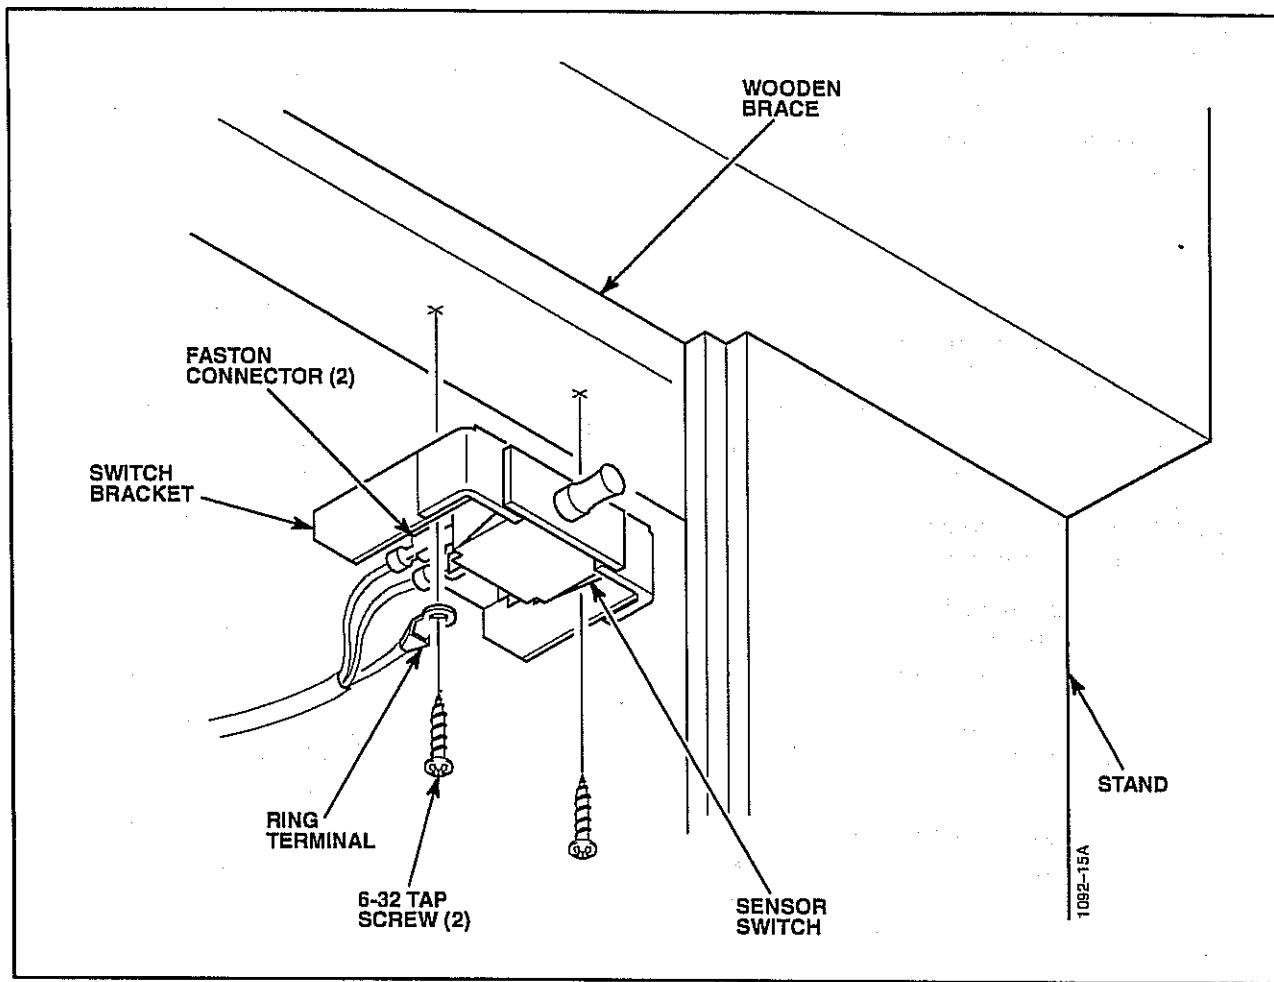

Figure 2-5. Drop-Door Sensor Switch – Horizontal Placement.
Refer to Figure 2-5 and the following instructions for installing the drop-door sensor switch in a horizontal position in the stand.
3. Snap the switch into the bracket (from the front of the bracket) so that it appears as shown in Figure 2-5.
6. Position the switch bracket so that the front of the switch faces out of the door opening in front of the stand and the two mounting slots contact the wooden brace in the upper right corner of the door opening, as shown in Figure 2-5.